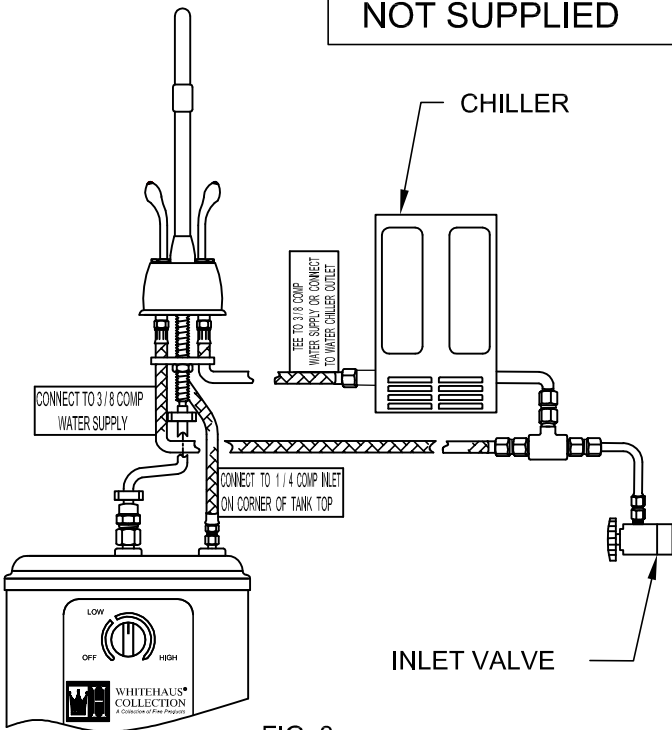

FIG. 3
8. **FOR WHFH-HC4550 & WHFH-HC4650** - IF A **WATER CHILLER** OR **WATER CHILLER AND FILTER** IS USED SEE FIG 3 OR 4. CONNECT THE WHD2001 3/8" COMPRESSION HOSE WITH LABEL MARKED "TO WATER CHILLER OUTLET" TO THE CHILLER OR FILTER OUTLET. CONNECT THE OTHER WHD2001 3/8" COMPRESSION HOSE TO THE COLD WATER SUPPLY. DO NOT CONNECT DIRECTLY TO THE WATER SUPPLY WITHOUT SHUTOFF VALVE. **FLUSH** ALL LINES BEFORE CONNECTING. GO TO STEP 10.